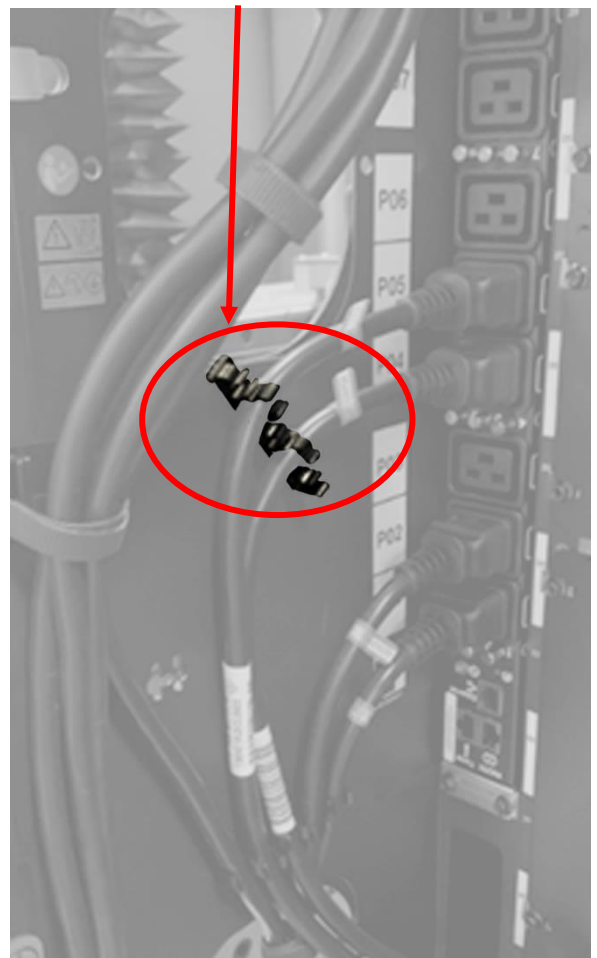

Figure 12: Frame Side Clip: Power Jumpers
- Frame Side Clip for Power Jumpers (reference Figure 12)